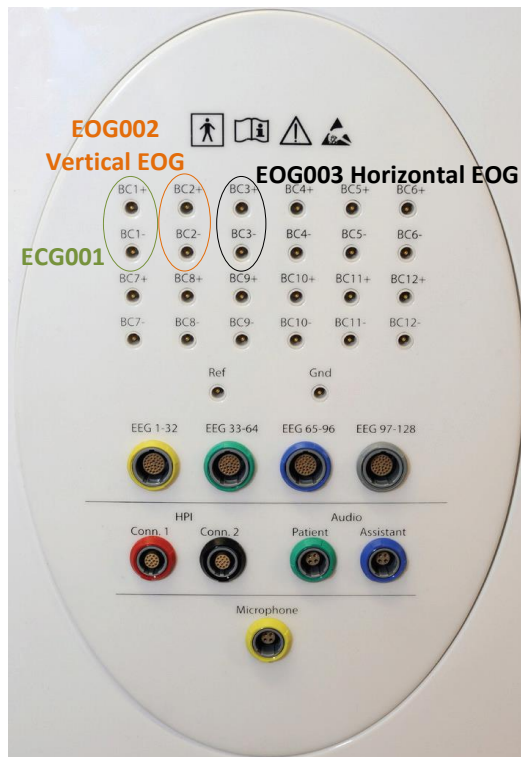

Figure 9: EEG, ECG and EOG connections to the MEG probe unit.
- Plug in HPI coils, EEG, ECG, EOG and/or EMG, see Figure 9: ECG001 = ECG, EOG002 = Vertical EOG, EOG003 = Horizontal EOG.